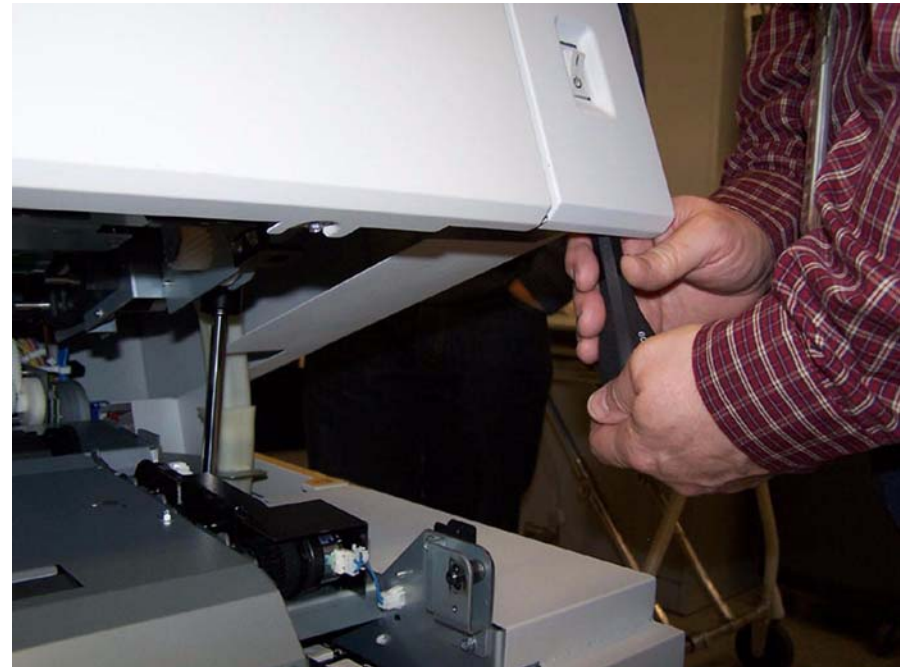

Figure 1 Removing the Right Upper Cover front mounting screw
4. Remove the front mounting screw (Figure 1).